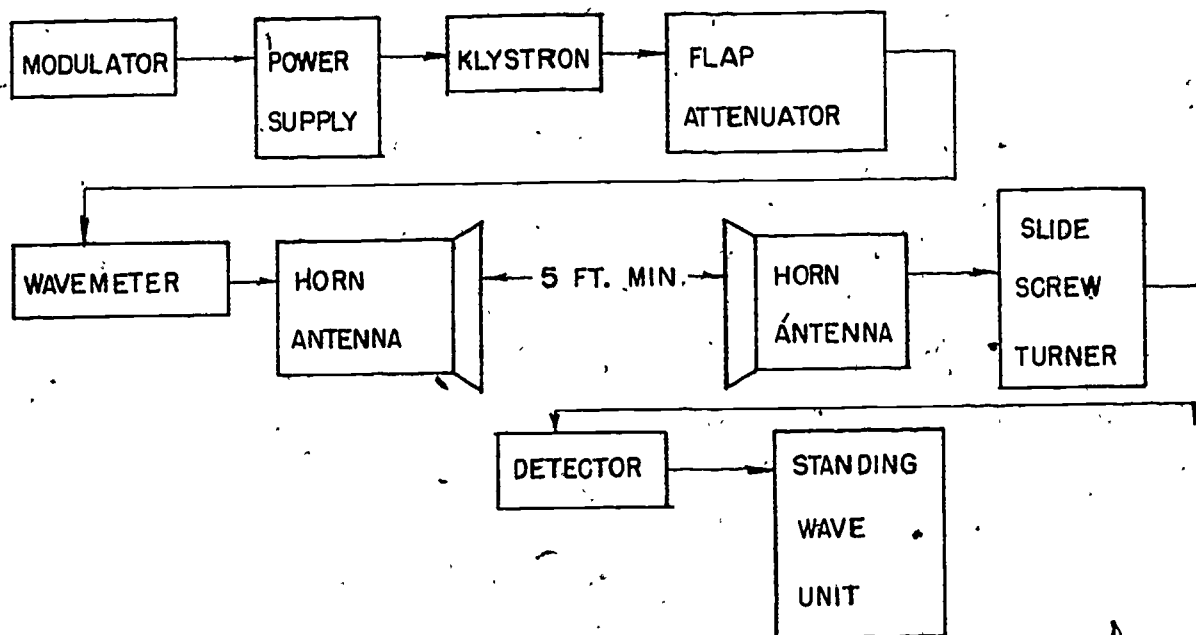

Fig. 1--Measurement of Antenna Patterns
2. Set up equipment as in Fig. 1.